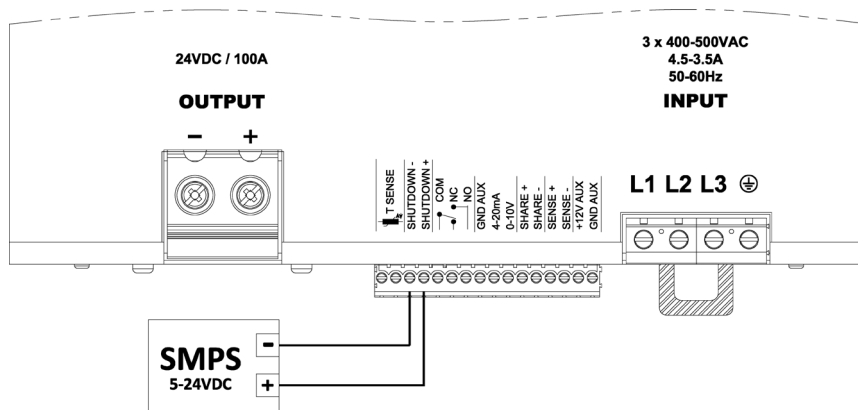

Figure 14. Remote shutdown input connection with external signal
- External signal:** when applying an external DC voltage as shown on Figure 14 from 5VDC to 24VDC to the SHUTDOWN inputs the LDT2400 output will be turned ON or OFF depending on the programmed shutdown polarity (see §6.4.9).
The physical layout of the interface is shown in Figure 14.